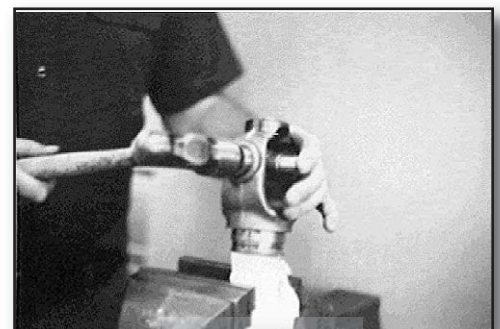

Figure 13
4. Wrap the shaft in a shop cloth to protect the splines, and mount it in the vise with the yoke up. Make sure the trunnions of the new cross are clean. Install the correct trunnions of the cross through the side of the shaft yoke that has the widest opening. The grease fitting in the cross must be away from the ball in the shaft yoke. (See Figure 13).